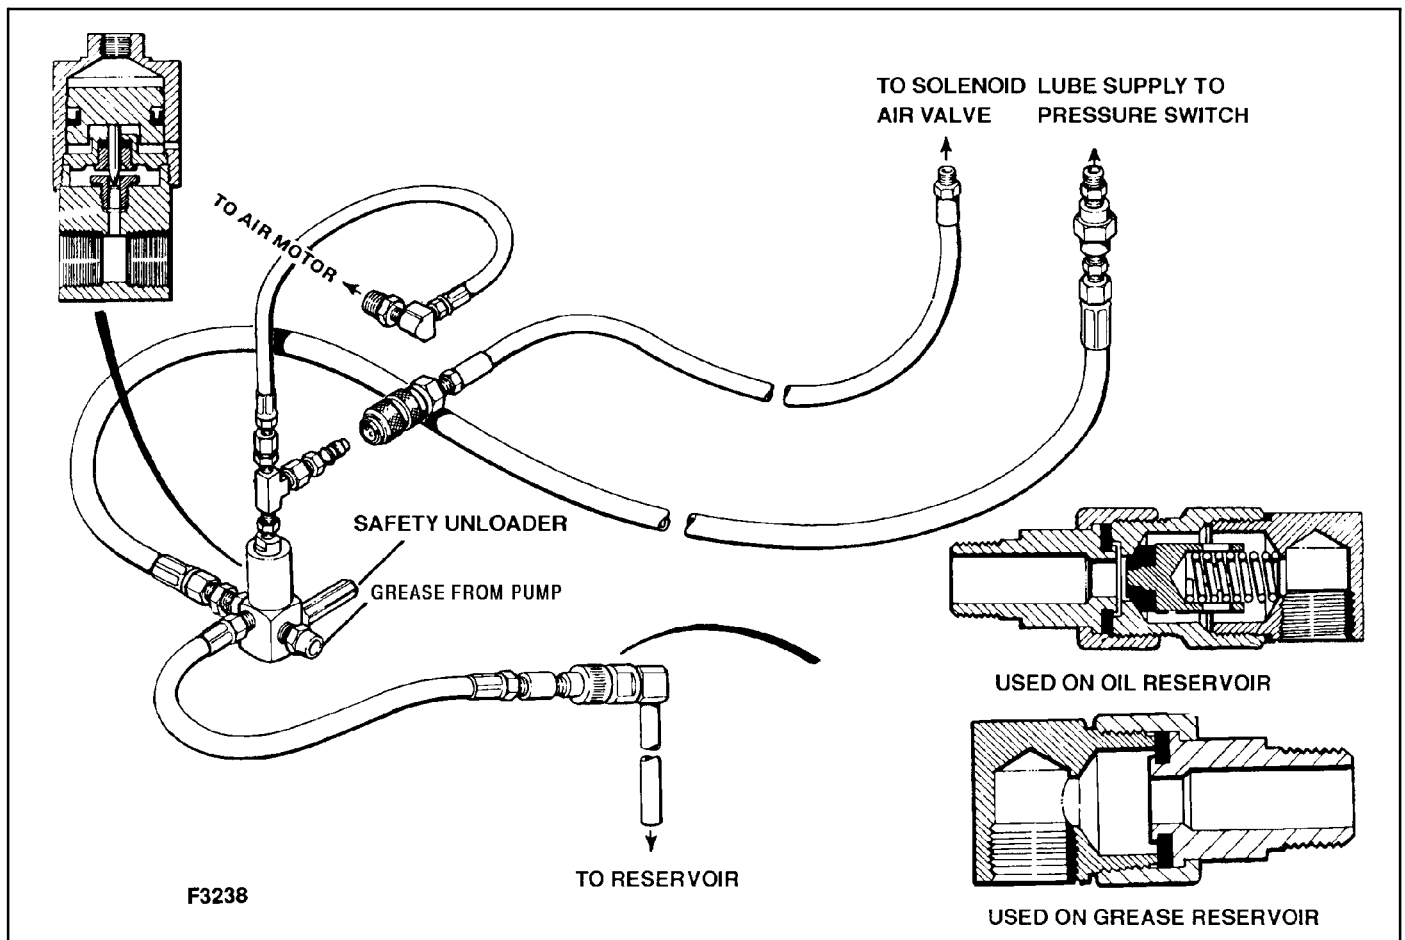

Figure 10-41. Vent/Valve Assemblies
DESCRIPTION. The vent valve assemblies, as shown in Figure 10-41, provide for lubrication system relief at the end of each lubrication cycle. Vent valve assembly components include a vent valve, elbow union (grease system) or elbow union with check valve (oil system) and various hoses and fittings.
VENT VALVE REMOVAL. To remove the vent valve, refer to Figure 10-41 and proceed as follows:
VENT VALVE INSTALLATION. Refer to Figure 10-41 and install the vent valve as follows:
1. Position the vent valve as shown in Figure 10-41.
3. Remove the air supply to the lubrication pump air motor (see Figure 10-41).